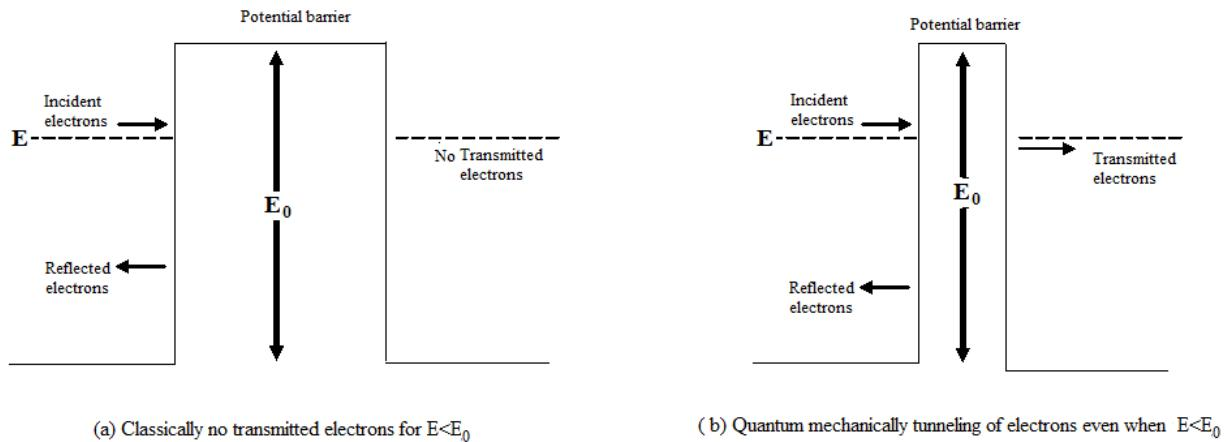

Figure 1.9
1.6.1 Tunneling effect: Classically a particle must have an energy at least equal to the height of potential barrier to cross it to the other side however according to quantum mechanics there is still a small finite probability **of** penetrating the potential barrier by the subatomic particle having energy less than potential barrier. Such crossing of a higher potential barrier by subatomic particle is called tunnel effect(Figure 1.9).